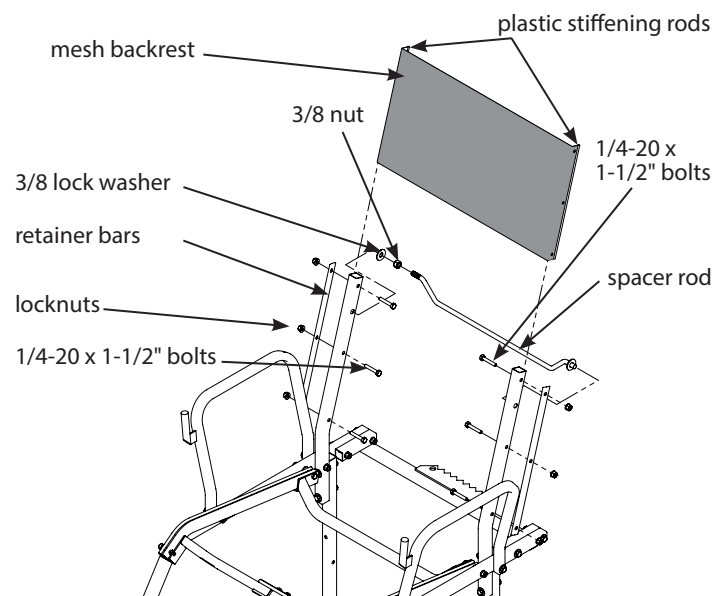

Figure 18
14. Attach the mesh backrest (360021) and the (2) retaining bars (410081) to the backrest mounts using (6) provided 1/4-20 x 1-1/2" bolts and locknuts. **SEE FIGURE 18.** The mesh backrest must wrap around the front side of backrest mounts and the plastic stiffening rod located in the sewn sleeve on each side of the backrest **MUST** be positioned behind the backrest retainer bars to act as a stop and prevent the backrest from pulling out during use. All bolts **MUST** go through the backrest retainer bars, the holes provided in the backrest and the backrest mounts. **SEE FIGURE 18.** Temporary removal of the backrest mount tube from the rest of the assembled ladder top may be necessary to attach the mesh backrest. If this is needed, re-attach backrest mount tubes with mesh backrest to the ladder top assembly.
15. Thread the non-locking 3/8-16 nut onto the threaded end of spacer rod all the way to the bottom of threads and slide 3/8" lock washer on. Insert the threaded end of spacer rod through either backrest mount tube far enough to be able to insert the opposite end of spacer rod (end with welded-on washer) into opposite backrest mount tube. Thread 3/8-16 nut back against mount tube. Using a 9/16" wrench, tighten nut until mesh backrest becomes taut. **SEE FIGURE 18.** **You must now tighten all nut and bolt assemblies. Be sure not to over tighten or crush tubing when tightening!**